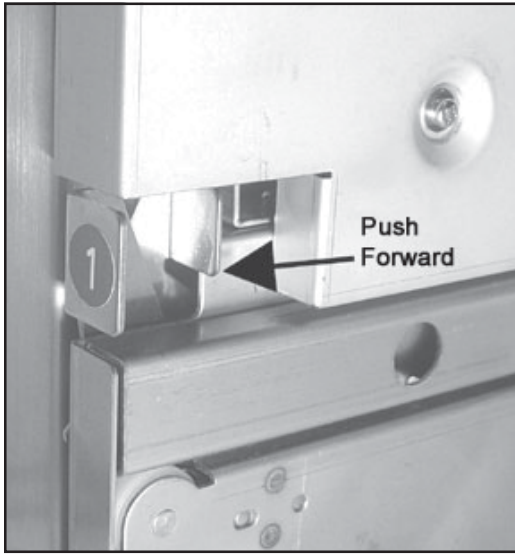

Figure 1
1. Open the door on the AD-02 (Fig. 1).